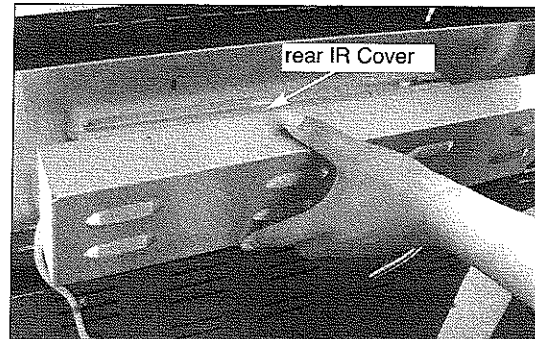

Fig 29
45. Grasp rear infrared cover and remove it from the grill. (See Fig. 29)